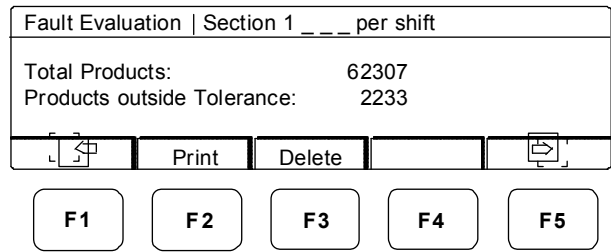

Figure 12-11. Fault-Counter-Data Screen
1. At the inspection screen, press F2 (Counter). The fault-counter-data screen displays (Figure 12-11).